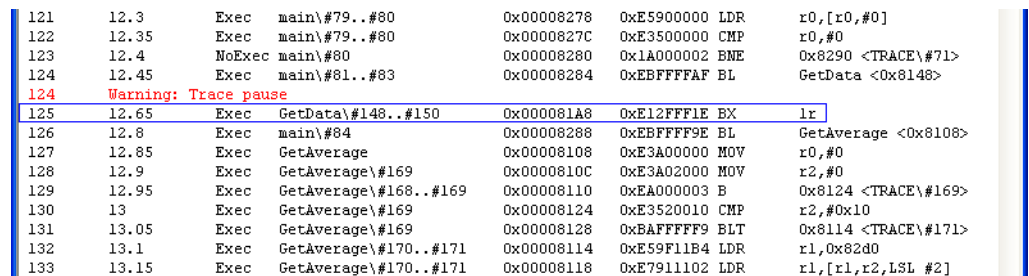

Figure 10-41 Captured trace near the GetData() function
5. Scroll through the captured trace. Observe that only the function call to `GetData()` and the instructions to return to `main()` are traced. Figure 10-41 shows an example: